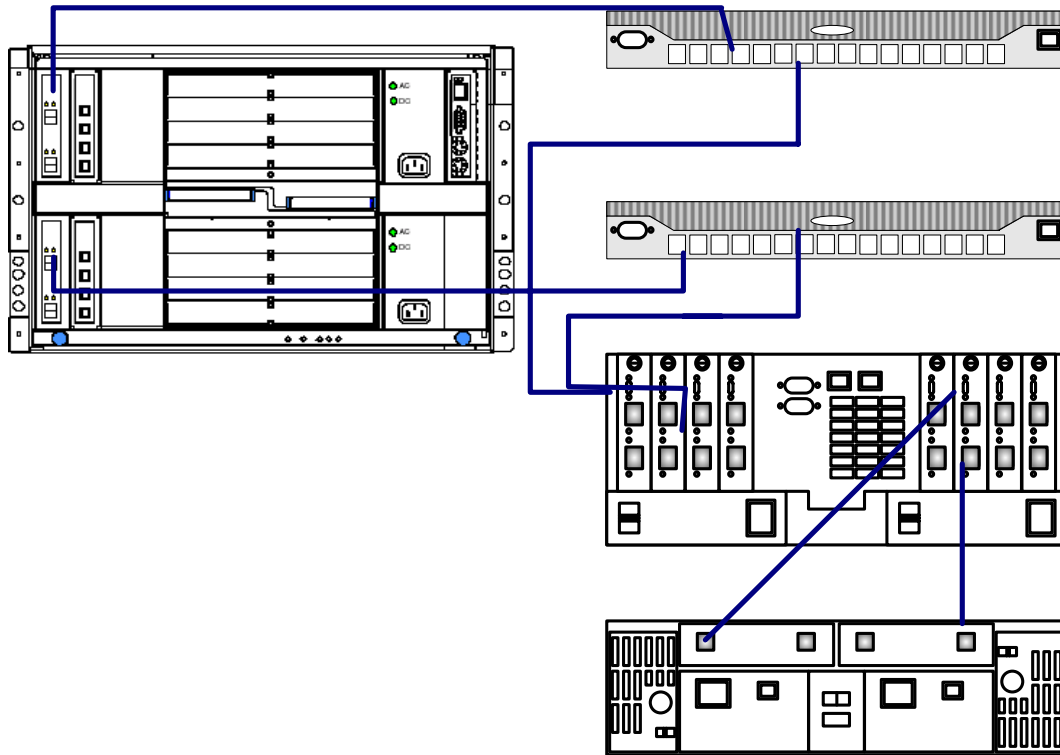

Figure 2.- BladeCenter in Fabric-attach SAN environment
This process is intended for a configuration of a Blade Center directly connected to the Storage Array using Fibre Channel (FC) cables (figure 1) If the Blade Server is connected to the Storage Array via FC switches (figure 2), please reference the IBM BladeCenter Interoperability guide first for instructions to correctly integrate the BladeCenter into an existing FC switched fabric. This guide is available at: <http://www-307.ibm.com/pc/support/site.wss/document.do?sitestyle=ibm&Indocid=MIGR-58206>. Upon following these preliminary tasks, you will be able to use the information in this document to set up remote boot.